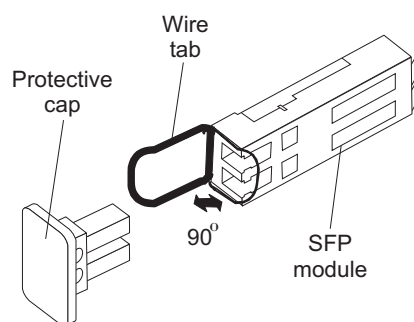

Figure 26. Unlocking the SFP module latch - wire variety
- For SFP modules that contain wire tabs, unlock the SFP module latch by pulling the wire latch outward 90°, as shown in Figure 26 on page 47.